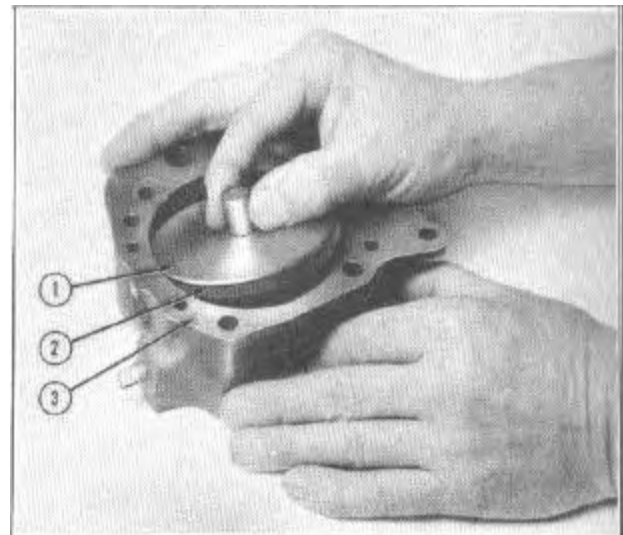

FIGURE 77
3. Install the piston and seal assembly (1) and (2) into the cylinder by entering the piston at an angle Figure 77. After all of the piston and seal is below the mounting